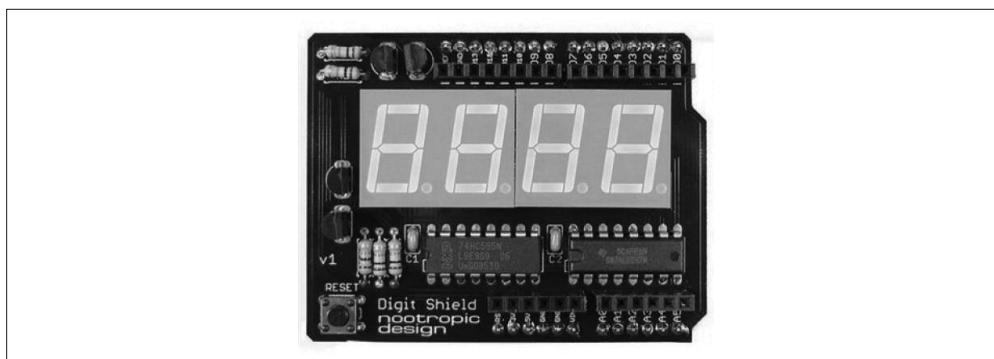

图 8-66: Nootropic Design 七段显示器扩展板
- 4x 7-Segment Arduino Compatible Digit Shield (<http://bit.ly/arduino-7seg>) (图 8-66)